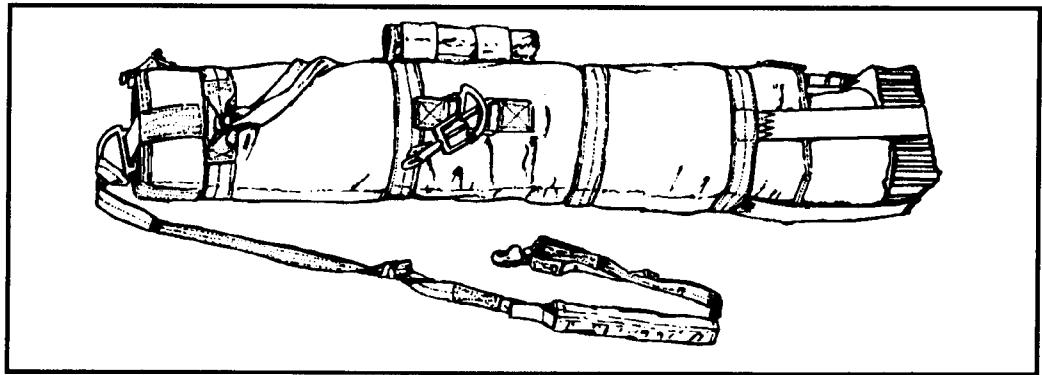

Figure 12-54. Attaching strap secured.
(1) Attach the lowering line to the lowering line attaching strap by routing the loop of the lowering line through the small loop end of the lowering line attaching strap.
(2) Route the lowering line through its own loop and pull tight (Figure 12-54).
(1) If not already installed, attach the lowering line attaching strap to the nonadjustable cross strap D-ring by routing the large loop around the D-ring.
(2) Route the lowering line through the attaching strap loop and pull tight (Figure 12-54).